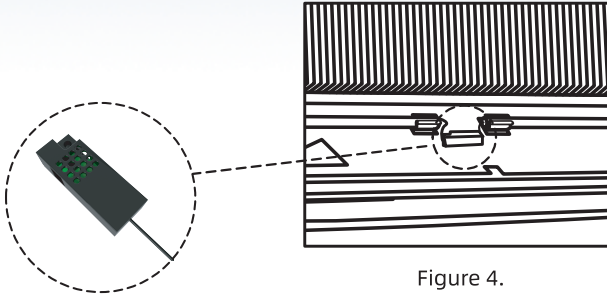

Figure 4.
- 3 Stick the airflow sensor on the air supply outlet with 3 M tape. (Figure 4.)